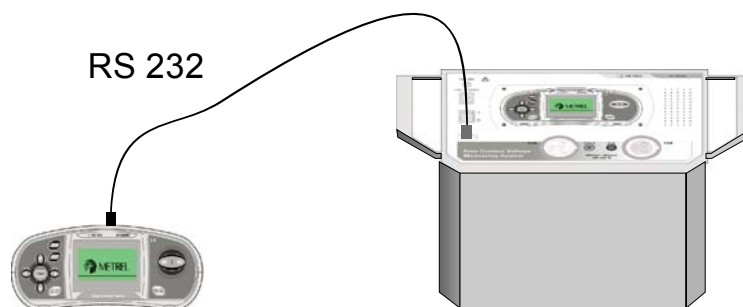

Fig. 7.7. Connection of the instruments during synchronization
For connection of the instruments see *Figure 7.7*.
- ❑ To view stored earth resistance results on PC they must be downloaded to the Meter first. To download the results select Earth results in Synchronize menu. After the results are downloaded the stored data in the Station will be automatically deleted. For connection of the instruments see *Figure 7.7*.